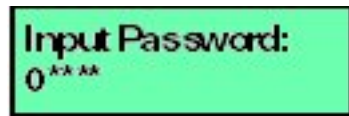

Figure 3.1. LCD Panel (Password Entry)
1. At the LCD panel, press **ENTER**. The Welcome!! or operational information message changes to the following (Figure 3-1):